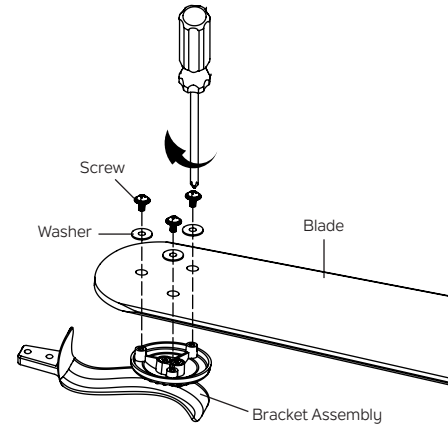

Fig. 20
**Step 1.** Attach the blades to the bracket assemblies as shown, securely tighten with screws and washers from the hardware pack. (Fig. 20)